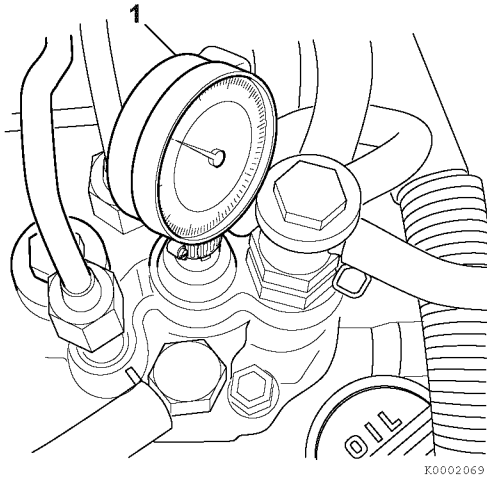

Figure 7-42
3. Note the reading on the dial indicator (**Figure 7-42, (1)**). If the reading is less than 2.5 mm (0.098 in.), the fuel injection timing is “retarded”. If the dial indicator reading is greater than 2.5 mm (0.098 in.), the fuel injection timing is “advanced.”